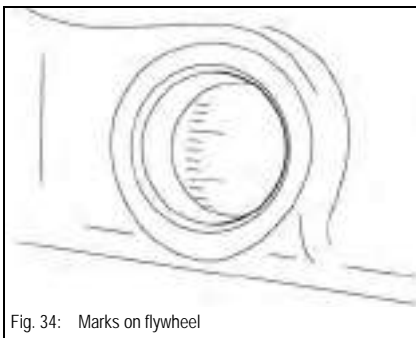

Fig. 34: Marks on flywheel
- ➔ The injection time must be measured to determine whether it is premature or too late, see Fig. 34